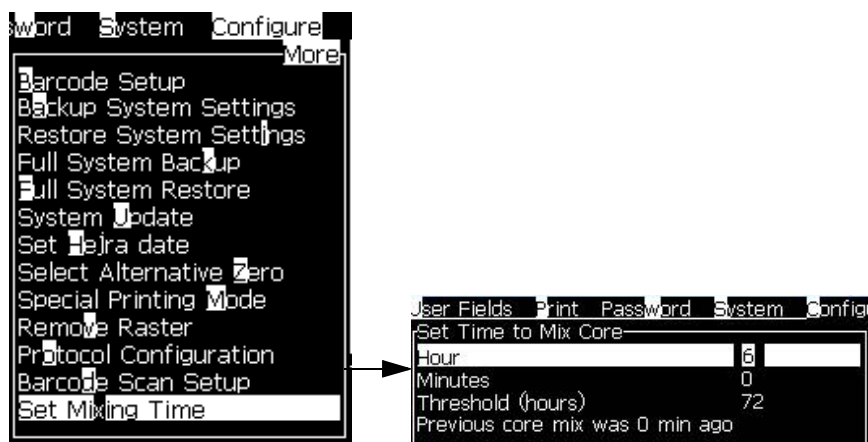

Figure 3-9: Set Mixing Time Option
- 1 Navigate to *Configure > Set Mixing Time* (Figure 3-9 on page 3-10).